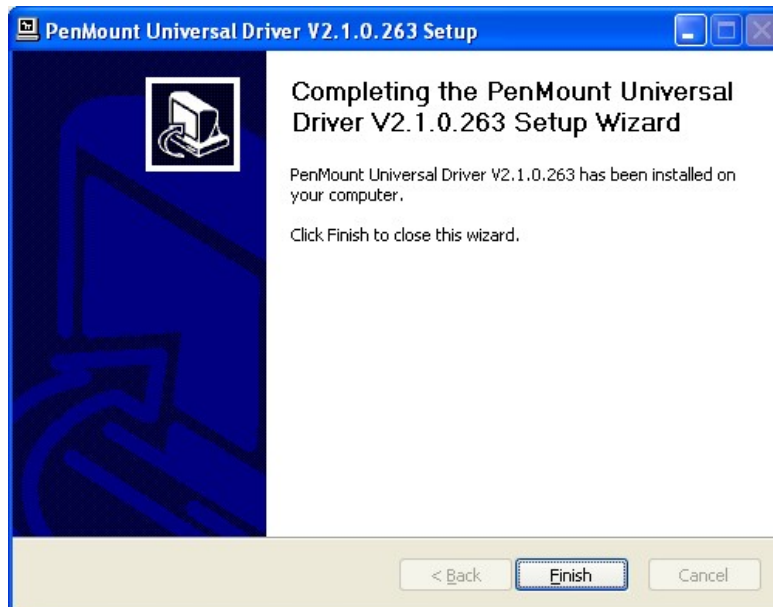

Figure 5-26: Touchscreen Driver Update Complete
Step 12: When the installation is complete, click **FINISH** to exit setup. (Figure 5-26).